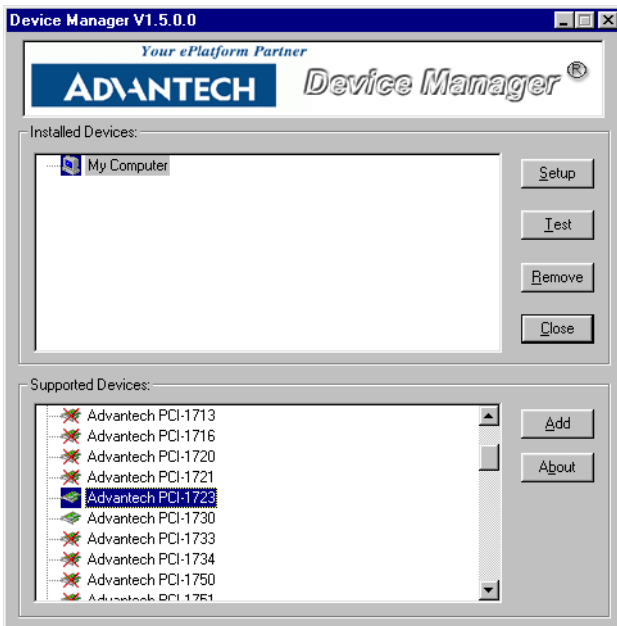

Figure 2.4: Device Manager Dialog Box
2. You can then view the device(s) already installed on your system (if any) on the Installed Devices list box. Since you have not installed any device yet, you might see a blank list such as the one below (Fig. 2-4).